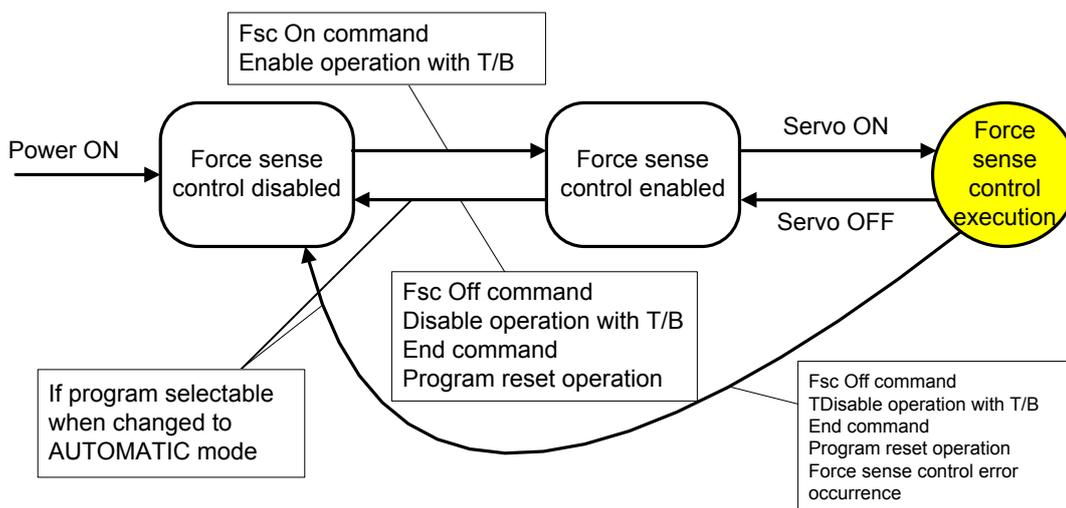

Fig. 11-1: Force sense control function status transition
- (1) Enables the force sense control function using force sensor. (Default: Disabled)
- (2) The force sense control content is specified with the "control mode" and "control characteristics " condition Nos. set beforehand.
- (3) If the force sensor is not connected and this command is executed, error L3986 occurs.
- (4) This command cannot be executed when the force sense control function is enabled (error L3987 occurs.) If changing the "control mode" or "control characteristics ", execute the Fsc Off command to disable the force sense control function, and then execute the Fsc On command again. However, the "control characteristics " can be changed during operation using the FsGChg command or FsCTrg command.
- (5) "Control mode" and "control characteristics " 1 to 9 use setting values for each corresponding parameter. (Refer to Table 11-2 for details of setting items contained in control mode and control characteristics.)
- (6) If the "control mode" or "control characteristics " is 0 or -1, conditions set with dedicated status variables are used. The default status is the same setting as if "control mode" and "control characteristics " 1 is specified. (Refer to Table 11-2 for details of setting items contained in control mode and control characteristics.)
- (7) If the offset cancel designation is 1, force sensor data becomes 0 for all axes when this command is executed, and the sensor offset component is offset (zero point offset). No offset is made if the offset cancel designation is 0.
- (8) If the offset cancel designation is 1, execute this command after the robot stops completely. If the command is executed immediately after the movement, the zero point offset may not be performed properly due to an inertial force.
- (9) The force sense control enabled/disabled status and "control mode"/"control characteristics" settings are common to both AUTOMATIC and MANUAL modes.
- (10) Even if an interpolation continuous command is specified with the Cnt command, the command is executed after waiting for the robot movement to be completed.
- (11) Force sense control is disabled by performing a program reset or executing an End command. (See Fig. 11-1.)
- (12) Force sense control processing functions only when the servo is ON. Even if force sense control is enabled, force sense control processing is not performed while the servo is OFF. If the servo is turned OFF while performing force sense control processing, processing is stopped. Force sense control processing is then resumed by turning the servo ON again. (See Fig. 11-1.)